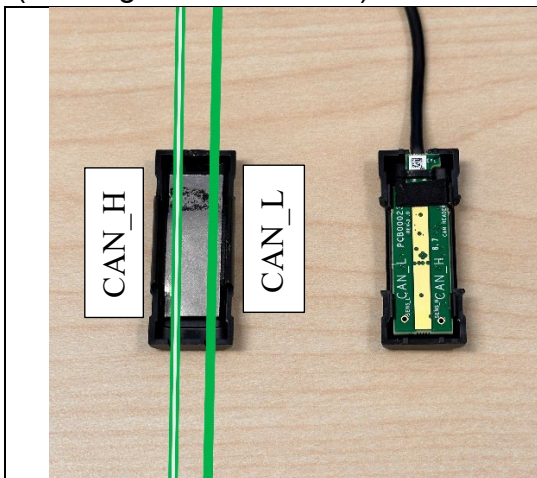

Figure 79
84. Align the new CAN reader so that CAN_H aligns with the CAN high (Striped color) wire and CAN_L aligns with the CAN low (Solid color) wire and snap it into the cap. (See Figures 79 and 80.)